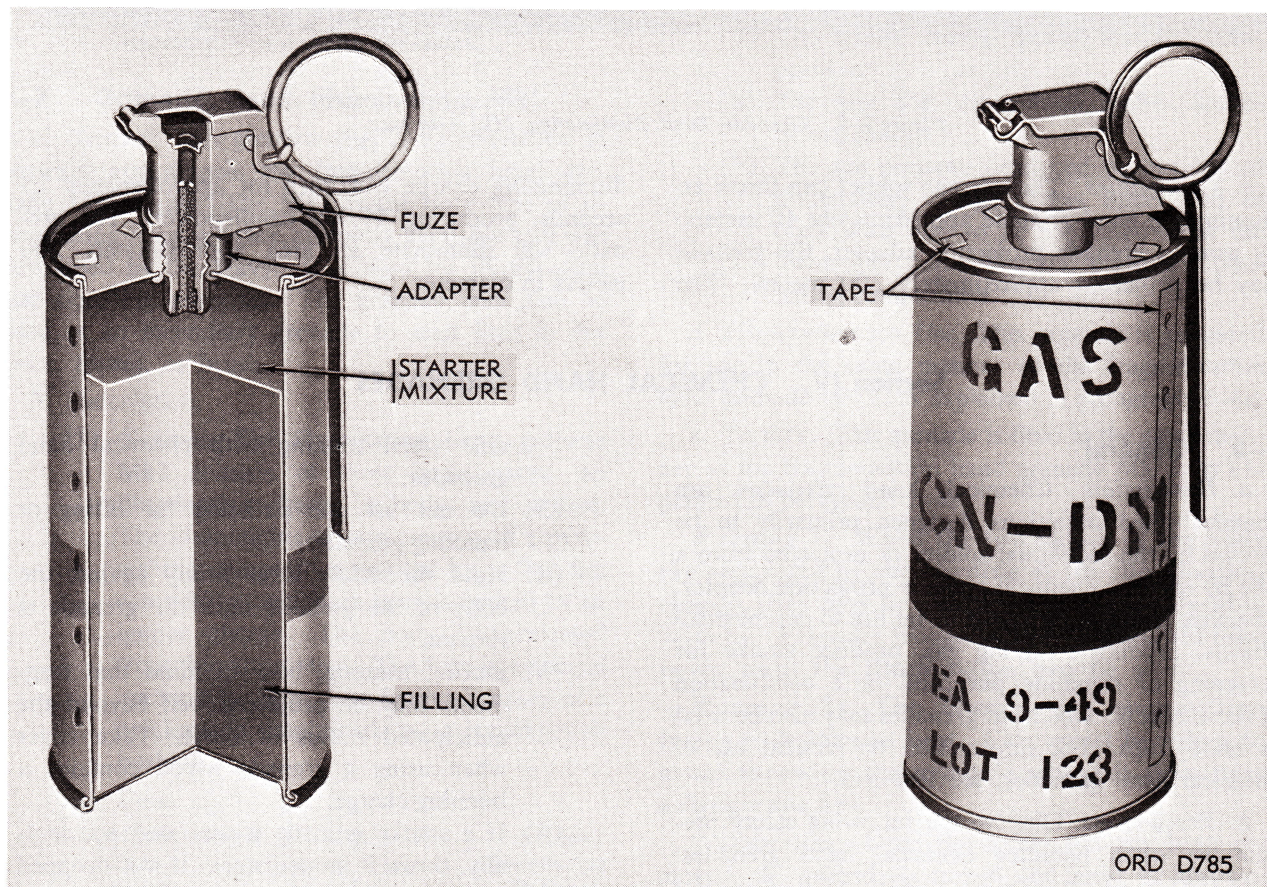

Figure 2-10. Grenade, hand: riot, CN-DM, M6 w/ fuze M201A1.
a. *General.* CN-DM riot hand grenade M6 (fig. 2-10) and M6A1 are irritant-agent grenades used primarily to control riots, mobs, and other disturbances. Grenade M6 and M6A1 can also be used to stimulate casualty agents during training of personnel.